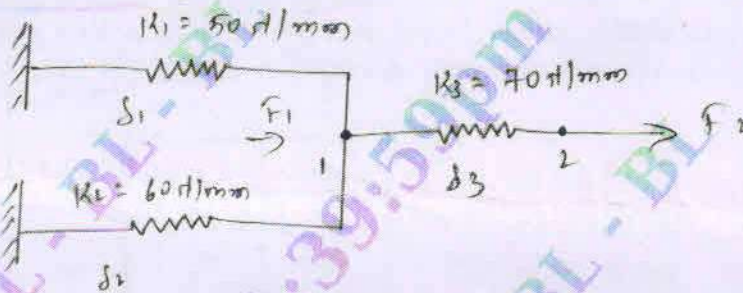

Fig. Q2 (a)
- 2 a. For the spring system shown in Fig. Q2 (a), using the principle of minimum potential energy. Determine the nodal displacements. Take : $F_1 = 75 \text{ N}$ and $F_2 = 100 \text{ N}$ (10 Marks)